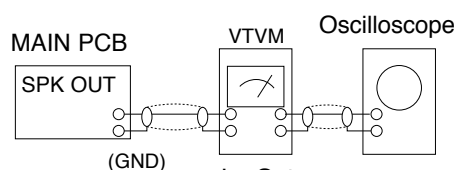

Figure 1-7
- 3) The cassette deck is connections as shown in figure 1-7.